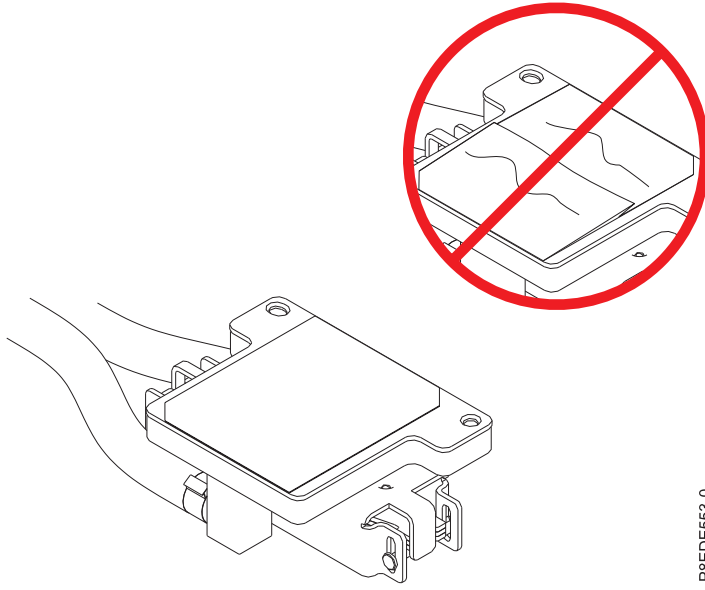

Figure 195. Inspecting the thermal interface material (TIM)
14. Inspect the thermal interface material (TIM) on the bottom side of the cold plate. See Figure 195 on page 195. Use the following criteria as you inspect the TIM: